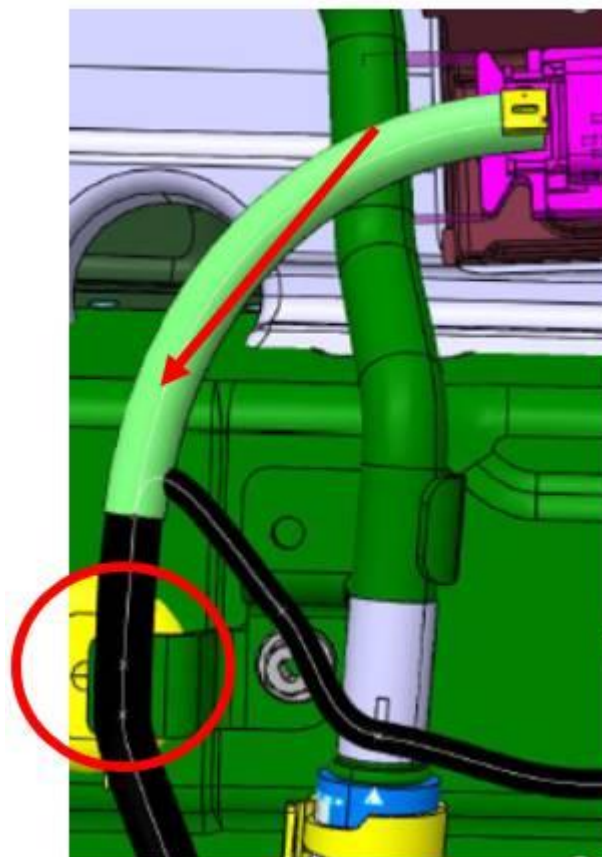

Figure 2. Harness modification diagram.
4. Expose and release retaining clip (see red circle in Figure 2).
5. Pull wiring harness 5 mm (see red arrow in Figure 2) away from power electronics.